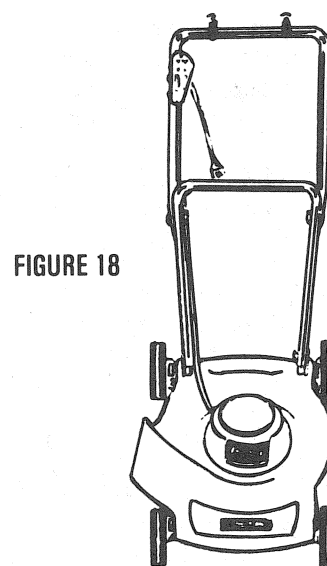

FIGURE 18
Your mower should be stored in a dry place, and to save space it can be hung on a wall (Figure 18) as follows:
3. Mount brackets on the wall, spaced to fit under both sides of the handle grip. Keep mower deck and handle parallel and hang on brackets (Figure 18).